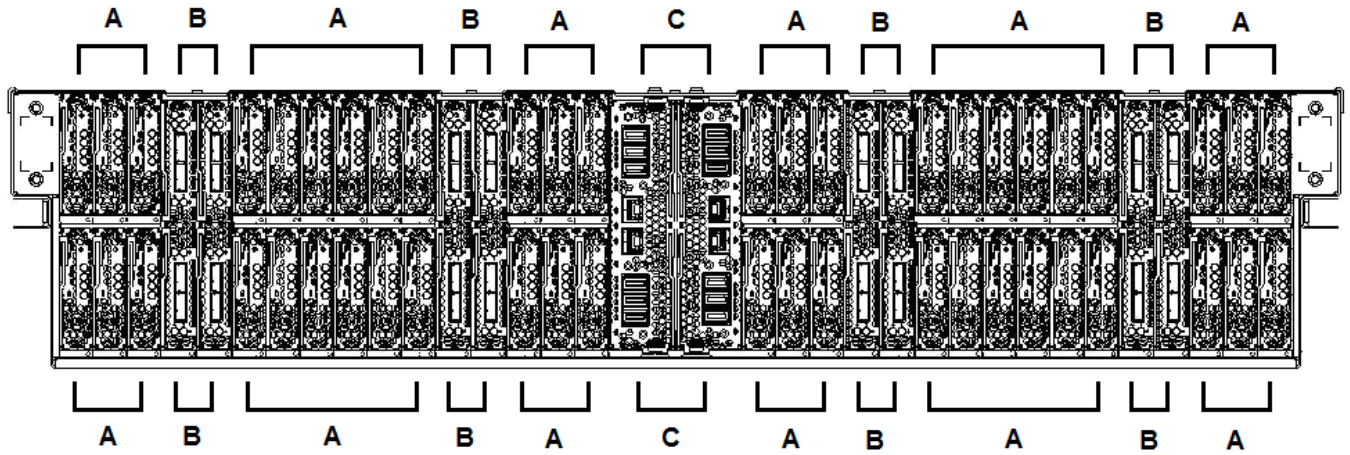

Figure 8 Disk Enclosure (Front View – showing 48 Drive Carriers, 8 Port Cards, and 2 DCCAs)
There are 96 Drive Carriers in the Disk Enclosure (DE) (see Figures 8,9 and 10).